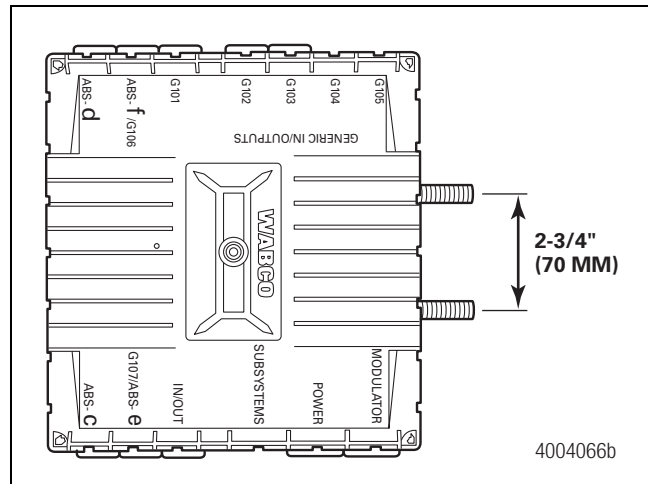

Figure 6.5
- Attach to the cross member. The center-to-center distance between the two holes must be 2-3/4-inches (70 mm) and mount directly to a rigid structure. Figure 6.5.